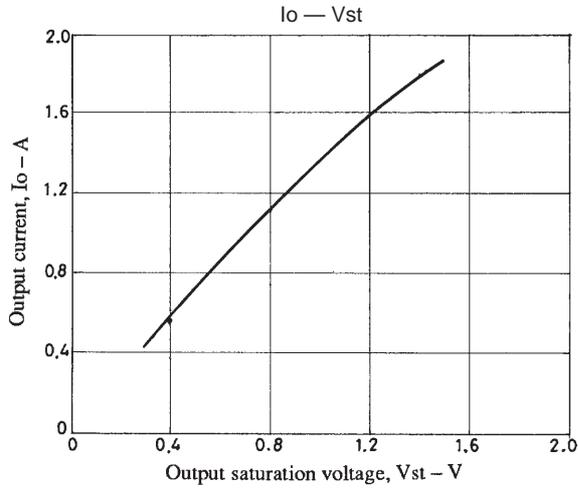
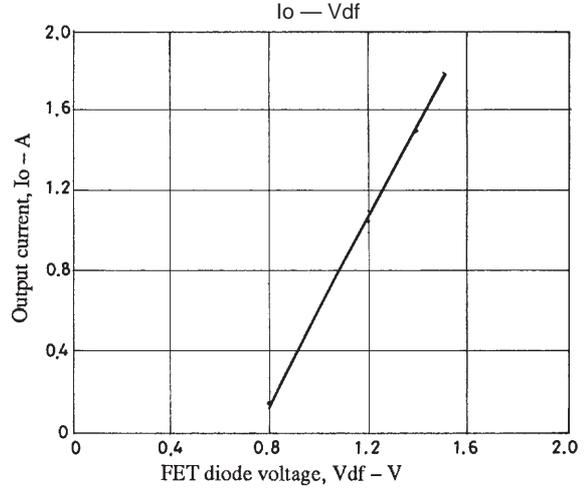

Fig. 8
Fig. 9
The characteristic diagrams (typ) for IOH and Vst, and IOH and Vdf are given in Figs. 8 and 9.
$V_{st}$  and  $V_{df}$  can be determined from Fig. 8, Fig. 9 and expression (10) as: